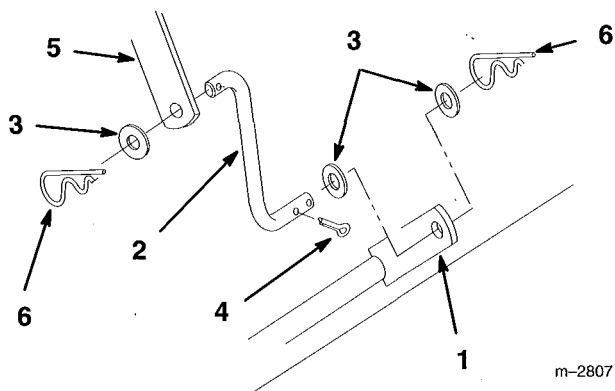

Figure 6
7. Install link to mower lift arm with cotter pin, (2) washers and a hairpin cotter (Fig. 6). Attach rear link to tractor rear attachment lift arm with washer and hairpin cotter (Fig. 6).